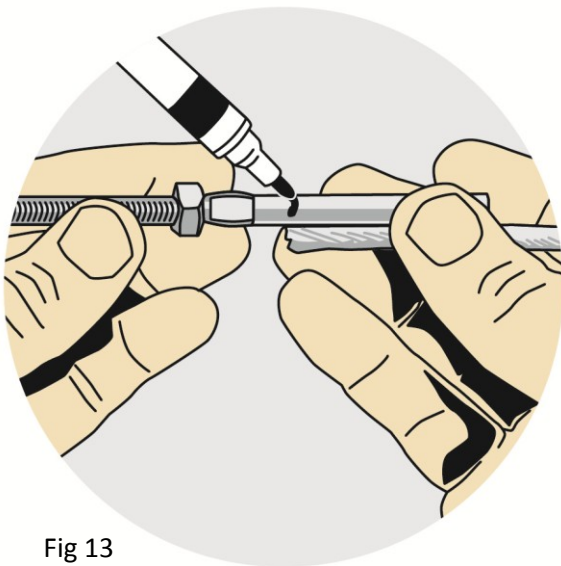
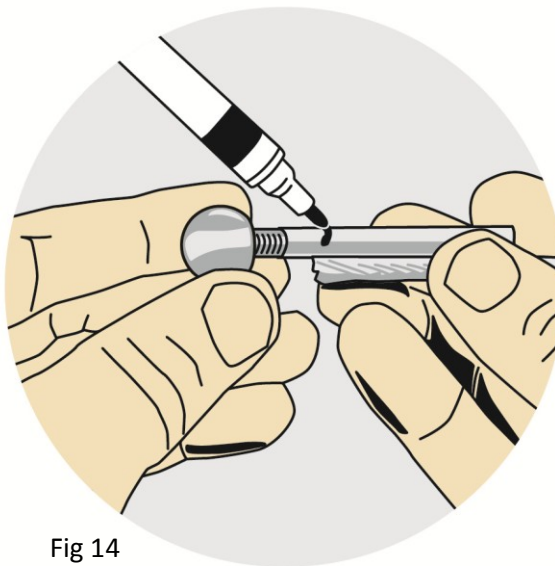

Fig 13
Fig 14
- a) Insert a piece of cable into the receiver end of the Classic Ball Turnbuckle (Fig. 13) or Swage Ball End (Fig. 14) and mark on the fitting that indicates how far the cable penetrates.